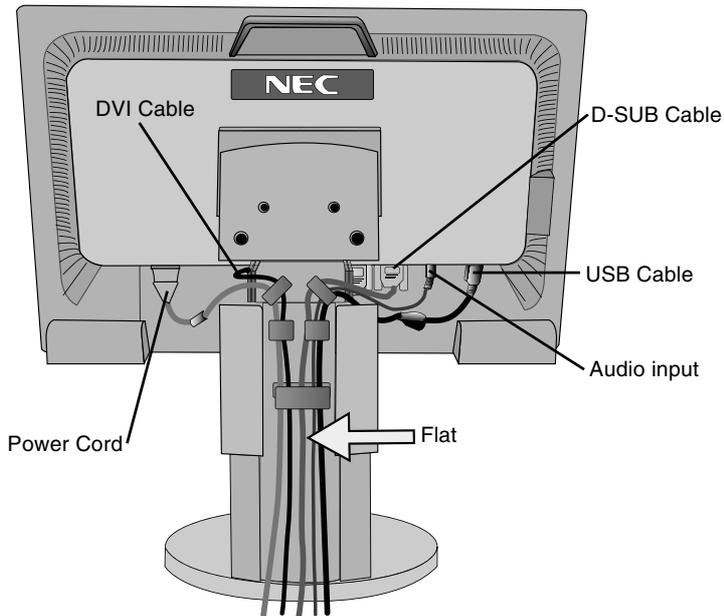
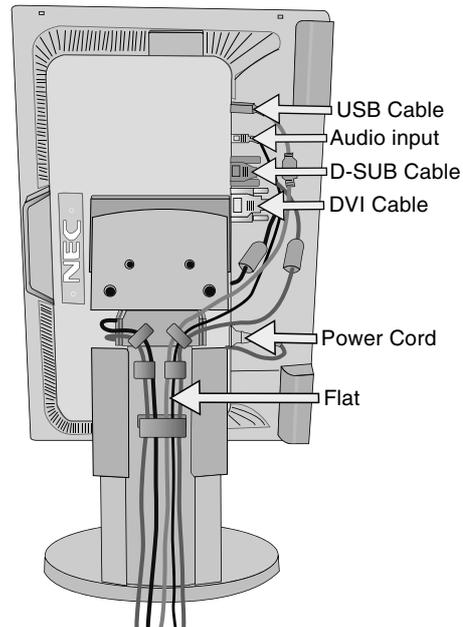

**Figure C.1**
**Figure C.1a**
3. Place hands on each side of the monitor to tilt the LCD panel 30-degree angle and lift up to the highest position (**Figure C.1**).
4. Connect all cables to the appropriate connectors (**Figure C.1**). Connect the Headphone (not included) to the appropriate connector at the left side of the monitor (**Figure C.1**). When using the USB cable, connect the B type connector to the USB upstream port on the right back side of the monitor and the A type connector to the downstream port on the computer (**Figure C.1a**). If you can use the cord from the USB device, use one of the downstream ports on the side of the monitor.